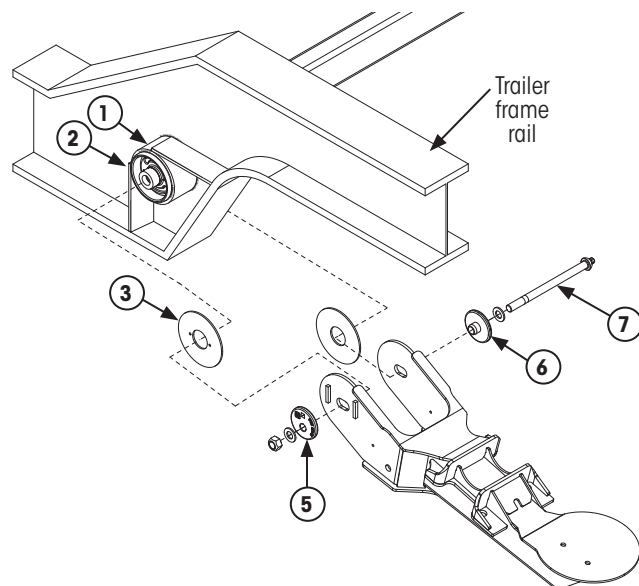
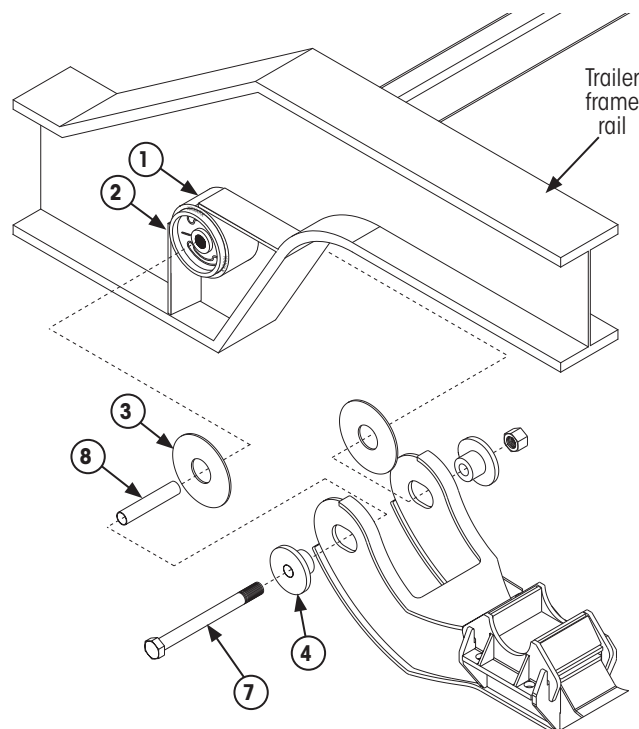

Figure 8: QUIK-ALIGN® pivot connection hardware
Figure 9: Welded collar pivot connection hardware
HT™ Series Y-beam suspensions differ from other suspension beams because they do not use a frame bracket. The fork or “Y” of the beam connects directly to the trailer frame using the bushing tube sleeve (Figure 8 and Figure 9, item 1).